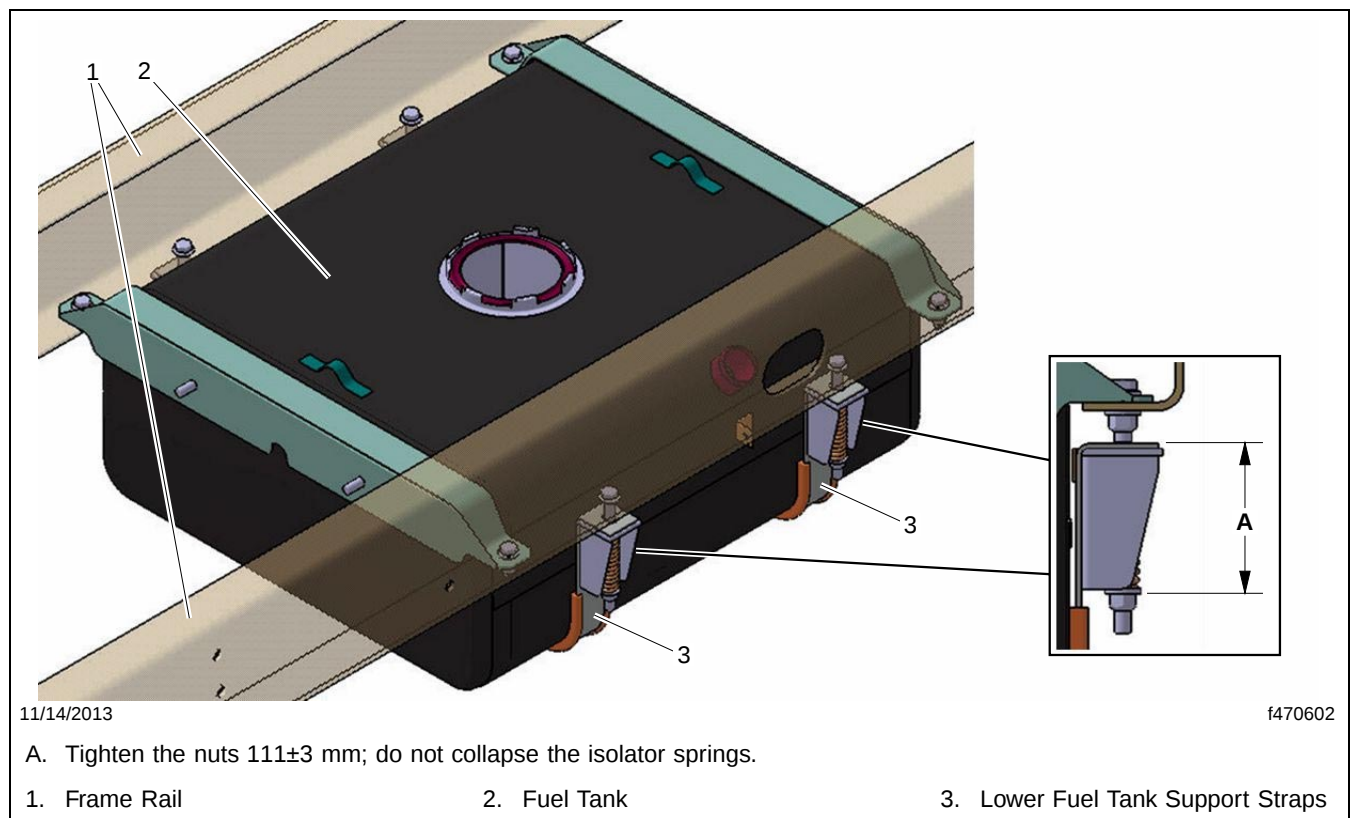

Fig. 3, Lower Fuel Tank Support Straps
18. Using the fuel tank support straps and new fasteners from the kit, attach the new fuel tank assembly to the chassis. See **Fig. 3**. Using a distance from the base of the washer under the spring to the top of the bracket, tighten the nuts 111 ± 3 mm; do not collapse the isolator springs.